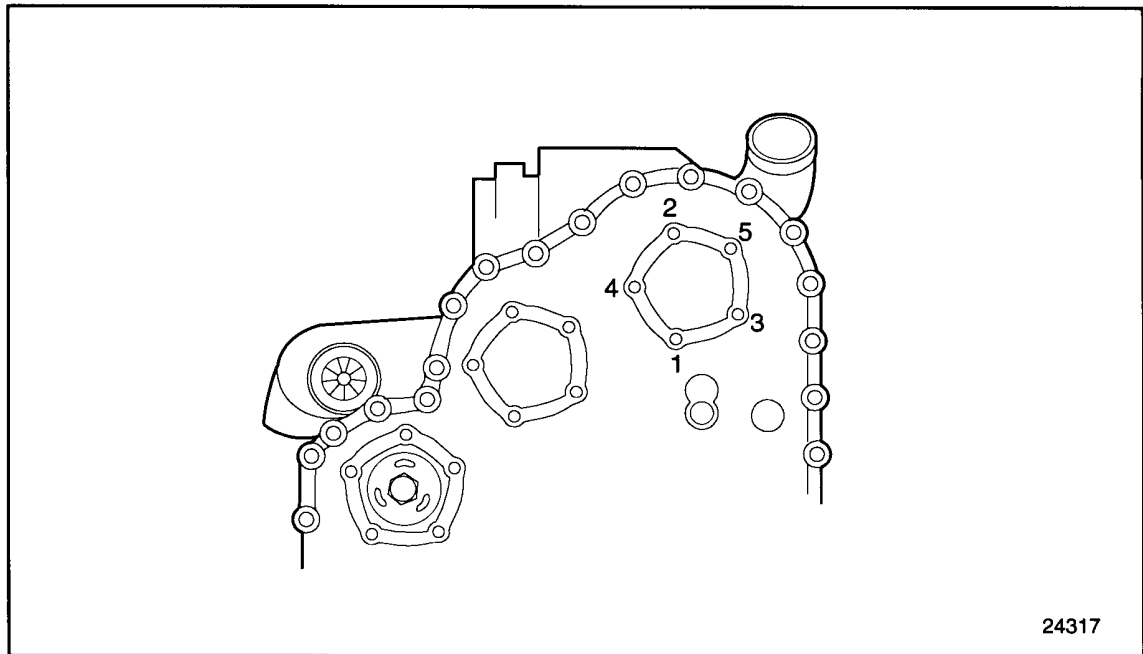

Figure 1-315 Camshaft Drive Gear Access Cover
15. Torque the bolts to 30-38 N·m (22-28 lb·ft) using the tightening sequence. See Figure 1-315.